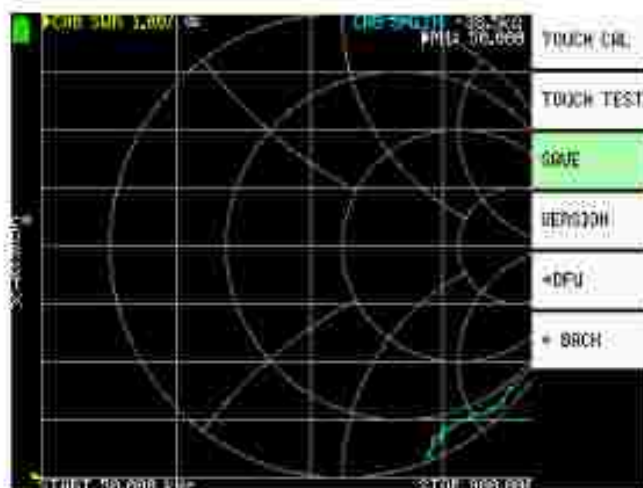

Figure 15
5. **SAVE** screen calibration (Fig. 15).